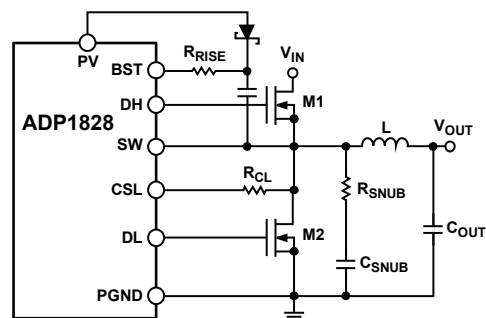

Figure 41. Application Circuit with a Snubber
In any high speed step-down regulator, high frequency noise (generally in the range of 50 MHz to 100 MHz) and voltage overshoot are always present at the gate, the switch (SW), and the drains of the external MOSFETs. The high frequency noise and overshoot are caused by the parasitic capacitance,  $C_{gd}$ , of the external MOSFET and the parasitic inductance of the gate trace and the packages of the MOSFETs. When the high current is switched, electromagnetic interference (EMI) is generated, which can affect the operation of the surrounding circuits. To reduce voltage ringing at the drain of the MOSFET, an RC snubber can be added between SW and PGND, as illustrated in Figure 41. In most applications,  $R_{SNUB}$  is about 2  $\Omega$ , and  $C_{SNUB}$  about 1.2 nF.  $R_{SNUB}$  and  $C_{SNUB}$  can be calculated using the following equations:
In most applications, a size 0805 component is sufficient. The use of the RC snubber reduces the overall efficiency, generally by an amount in the range of 0.1% to 0.5%. However, the RC snubber cannot reduce the voltage overshoot. A resistor, shown as  $R_{RISE}$  in Figure 41, at the BST pin could help to reduce overshoot and is generally between 1  $\Omega$  and 5  $\Omega$ .